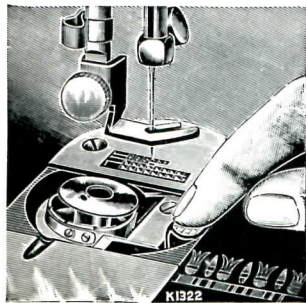
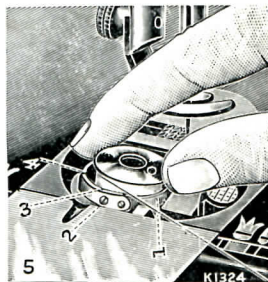
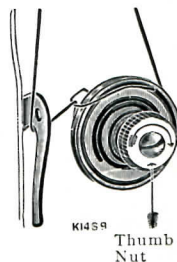

Fig. 4
Fig. 6
Fig. 11
Do not work the machine with the bobbin case (1, Fig. 6) and the needle threaded, except when sewing.
The slide (5, Fig. 6) must be kept closed.
Draw the slide (5, Fig. 6) to the left and press the forefinger of the right hand upon the bobbin ejector, as shown in Fig. 4; this will raise the bobbin so that it can be easily taken out.
(See Fig. 6).
Take the bobbin between the thumb and forefinger of the right hand, with the end of the thread drawing from the top to the left, and in this position replace it in the bobbin case, as shown in Fig. 6. With the left hand draw the thread into the slot (3), then back between the spring and side of bobbin case until it reaches the notch (4); then across the bobbin towards the needle. Thereafter close the slide (5).
Raise the needle to its highest point and remove the slide (5, Fig. 6) by raising its front edge.
A correct stitch can usually be obtained by varying the tension on the needle thread (see Fig. 11).—To increase the tension, turn the thumb nut in the direction illustrated by the arrow, or to lessen the tension, turn the nut in the opposite direction. All machines are correctly adjusted before leaving the factory, and it is therefore seldom necessary to alter the under tension. Should it become necessary to do so, however, tighten the tension spring screw (2, Fig. 6) on the left hand side of the bobbin case to increase the tension, or loosen the screw slightly to lessen the tension.